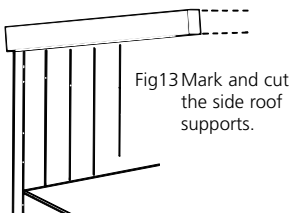

Fig 13 Mark and cut the side roof supports.
- Mark out and cut two 815mm lengths of 90x45mm treated pine for the side roof supports (see fig 13).